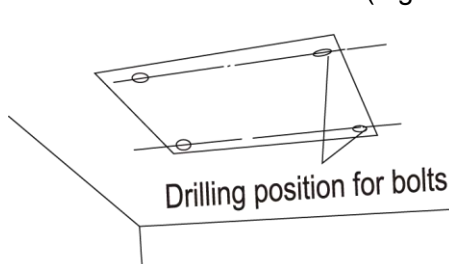

Figure 3-1-40
- (1) Using the installation template, drill holes for bolts (four holes). (Figure 3-1-40)